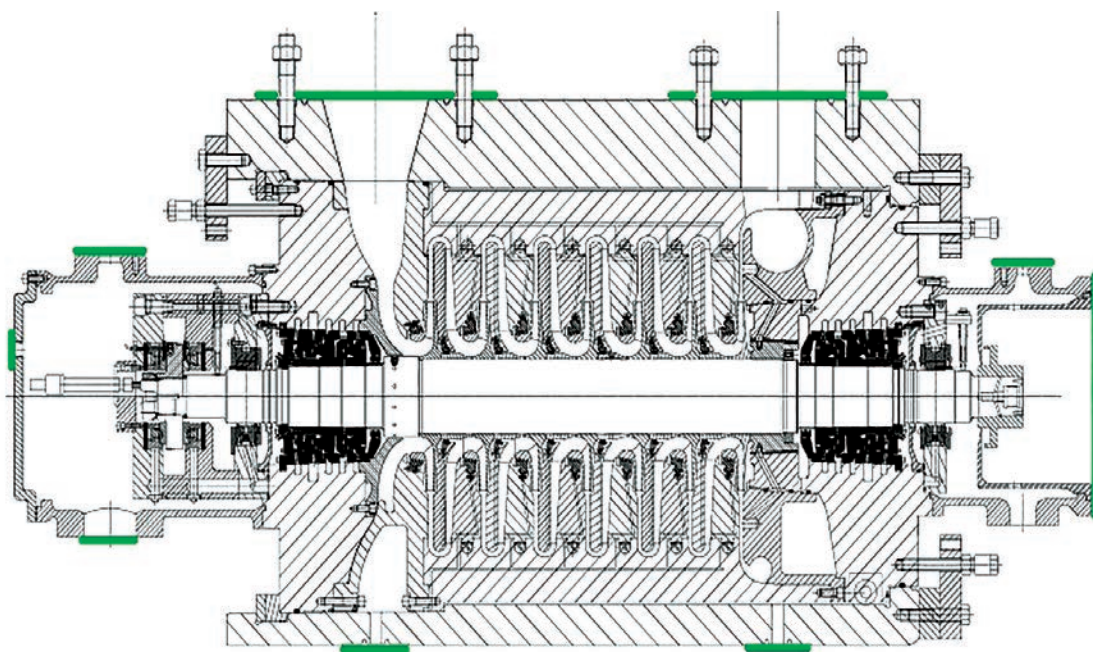
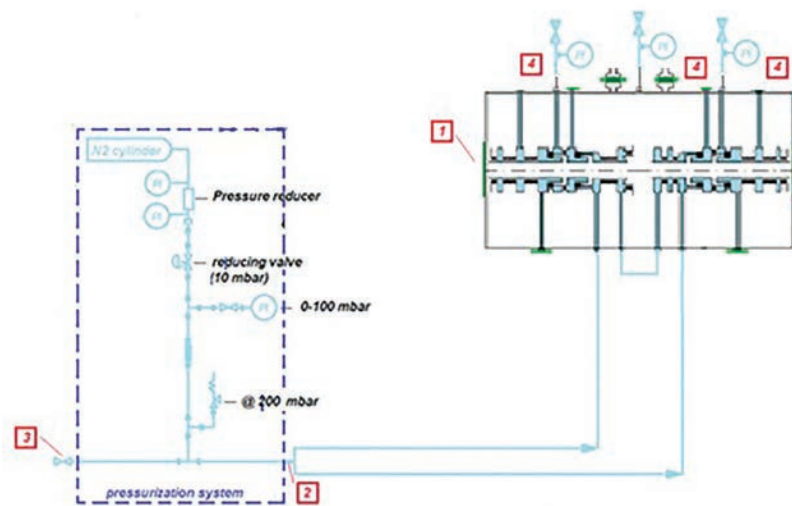

Figure 1: All connections must be flanged (highlighted in green)
Figure 2: Pressure must be maintained a little above atmospheric pressure by means of a pressurization system (highlighted in light blue)
be uncoupled from the driver. All connections must be flanged (Figure 1). As a further precaution, flanges should be taped around the circumference to ensure weather-tight sealing. Next, wash the compressor and pressurize it with nitrogen. The pressure must be maintained a little above atmospheric by means of a pressurization system (Figure 2).
Before commencing compressor preservation, tests should be done on the pressurization system by plugging the line upstream to the seal connection (Figure 2, item 2) and closing the end valve (Figure 2, item 3). Open the nitrogen cylinder valve, gradually increase the pressure to its maximum setting (about 50-60 mbar), close the cylinder valve, wait about 30 minutes and record the pressure. After 24 hours, check and note the pressure. If there is no variation, the system can be depressurized, unplugged and made ready for the pressurized test of the compressor.
Following a successful pressurization check, proceed with nitrogen purging using an external nitrogen source to eliminate humidity inside the compressor. This is accomplished by closing the nitrogen cylinder valve and using the connection upstream of the valve (Figure 2, item 3) to connect the external source of nitrogen.
Open the valves installed on the compressor's self-buffering connection and vents (Figure 2, item 4). Adjust the valve (Figure 2, item 3) to achieve about 50-60 mbar of pressure. Wait for nitrogen purging, then close the valve (item 3).